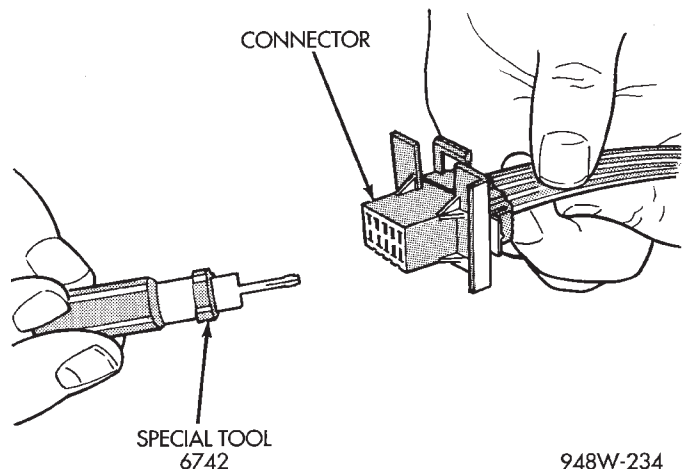

Fig. 12 Molex Connector Repair
(1) Disconnect battery.
(2) Disconnect the connector from its mating half/component.
(3) Insert the terminal releasing special tool 6742 into the terminal end of the connector (Fig. 12).